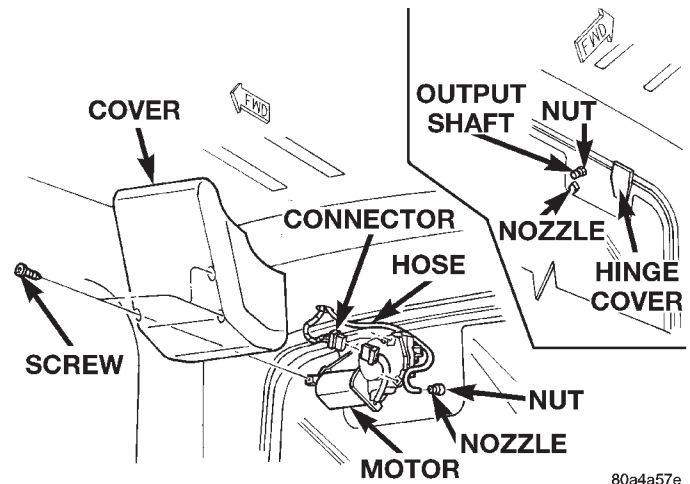

Fig. 12 Rear Wiper and Washer System
(1) Disconnect and isolate the battery negative cable.
(2) From the outside of the liftglass, remove the rear wiper arm from the rear wiper motor output shaft. See Wiper Arm in this group for the procedures.
(3) From the outside of the liftglass, remove the rear wiper motor output shaft nut and bezel unit (Fig. 12).
(4) From the outside of the liftglass, remove the rear wiper motor output shaft rubber gasket.
(5) From the inside of the liftglass, remove the three screws that secure the rear wiper motor cover to the motor.
(6) Unplug the rear wiper motor wire harness connector.